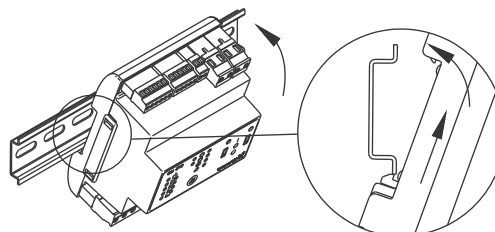

Fig. 17 Mounting of CU 211 and CU 212
3. Tip the unit into place. See fig. 17.